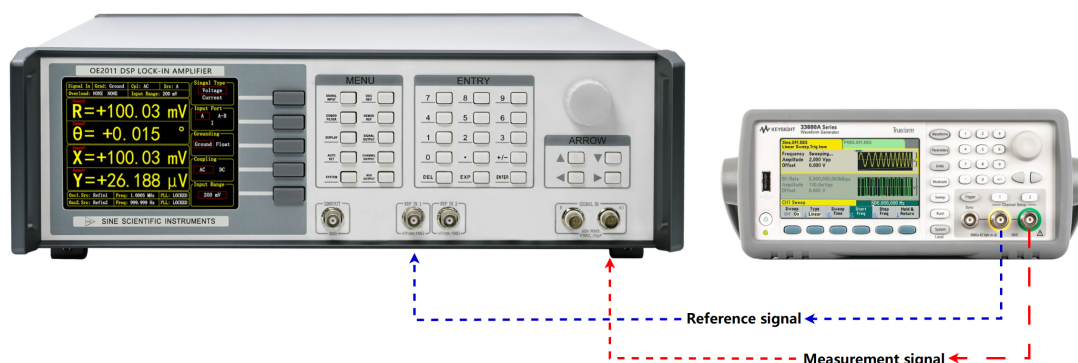

Figure 100. Signal Cable Connection Diagram
2. Use a signal cable with BNC connectors to connect the output connector of the function generator to the IN+ connector of SIGNAL IN on the front panel of the OE2011. Use another BNC signal cable to connect the reference signal connector of the function generator to the REF IN 1 connector on the front panel, as shown in Figure 100.